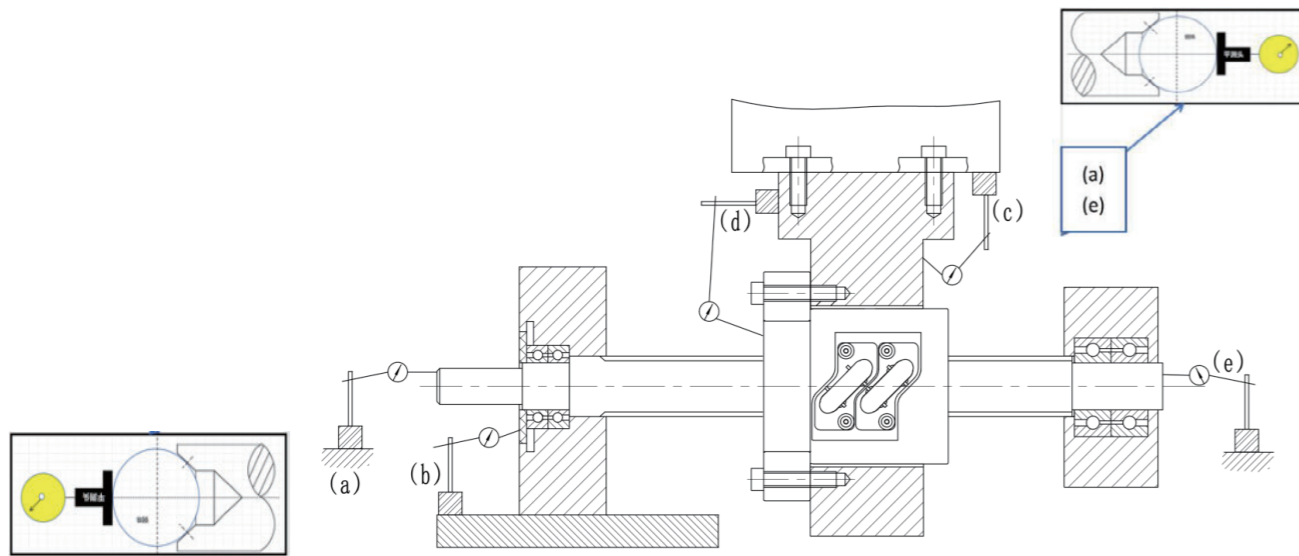

Figure 1.10.7 Axial clearance verification diagram
B) After the installation of the screw, a detection structure as shown in the above figure 1.10.7 (page 31) is erected at both ends, and the gauge data is read when the left and right displacement is carried by the nut.